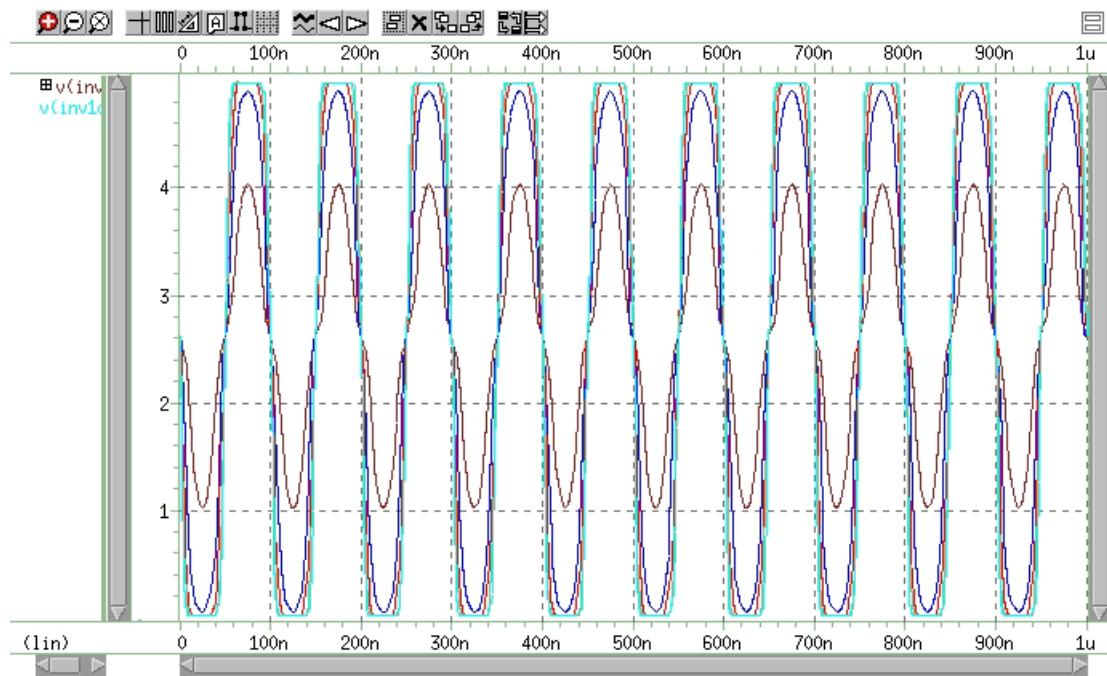
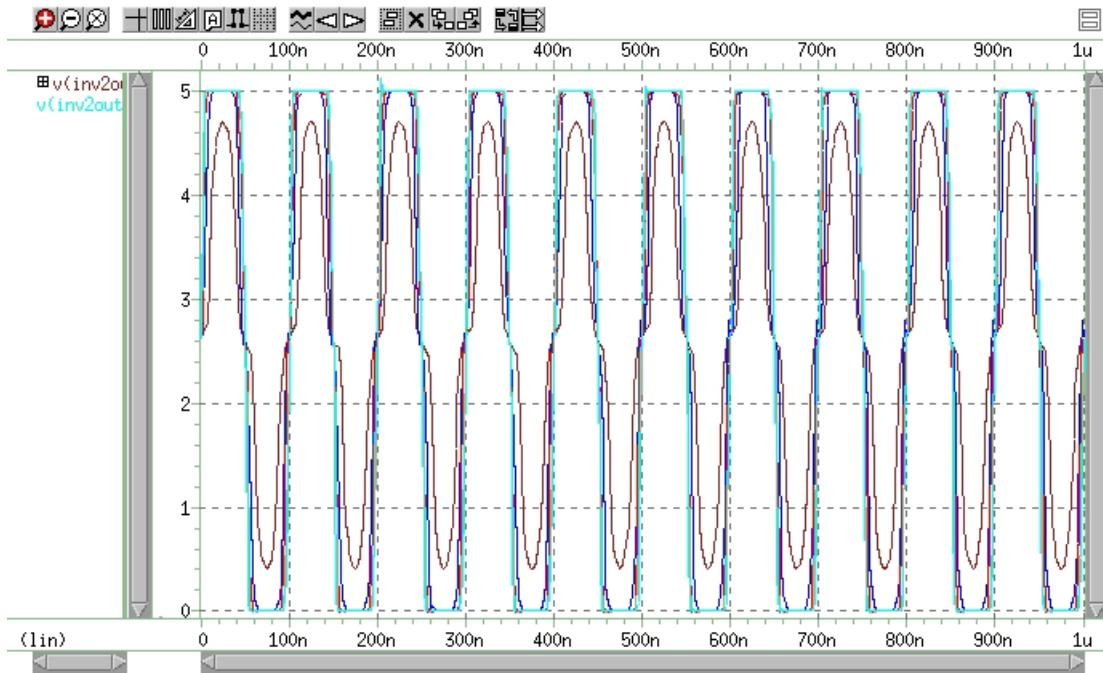

Figure 285 Plot of Voltage on Node *inv1out* vs. Time
Figure 286 Plot of Voltage on Node inv2out vs. Time
8. Repeat Step 6 and Step 7 to view the signals  $v(inv1out)$  and  $v(inv2out)$  (Figure 285 and Figure 286 on page 1190).